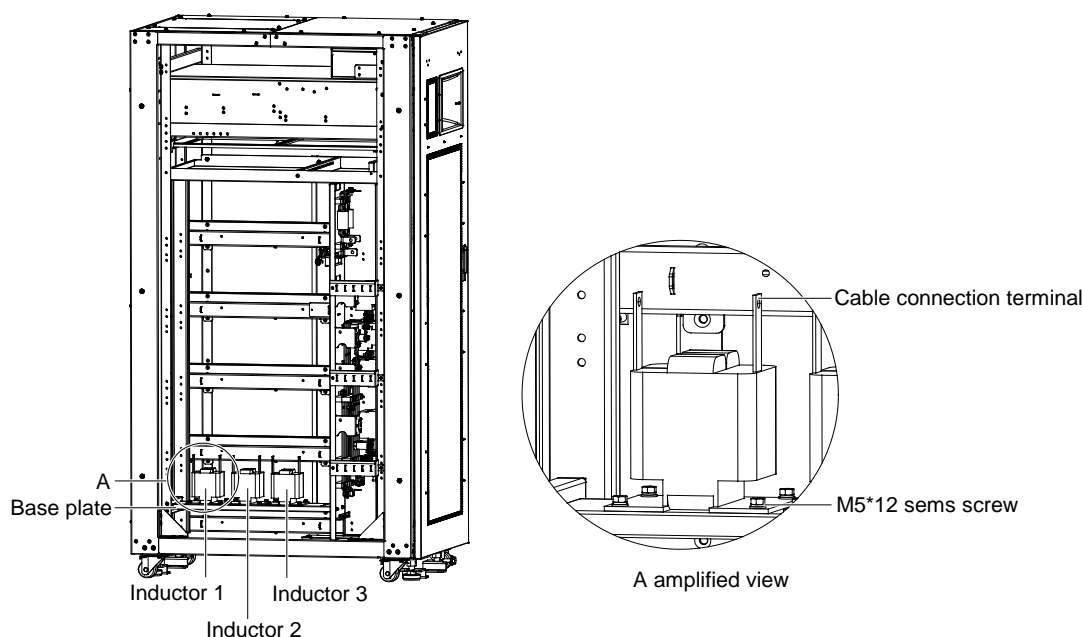

Figure 8-2 Position of bypass load sharing inductors
3. Install the three bypass load sharing inductors, see Figure 8-2.
There are 12 installation holes on the base plate of the UPS cabinet for fixing the three inductors, four installation holes for each inductor. Place the three inductors in the installation positions shown in Figure 8-2, and fix them on the base plate of the UPS cabinet with 12 M5 × 12 sems screws.